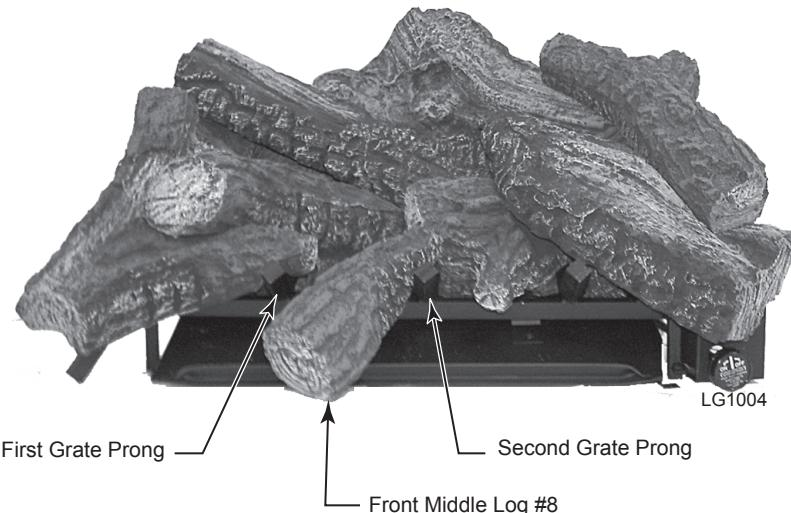

**Figure 42**
4. Place one end of middle left log (#4) on bottom left log. Rest other end of middle left log (#4) behind middle right log. *Figure 42*
5. Place middle right log (#5) on top of bottom right log. *Figure 42*